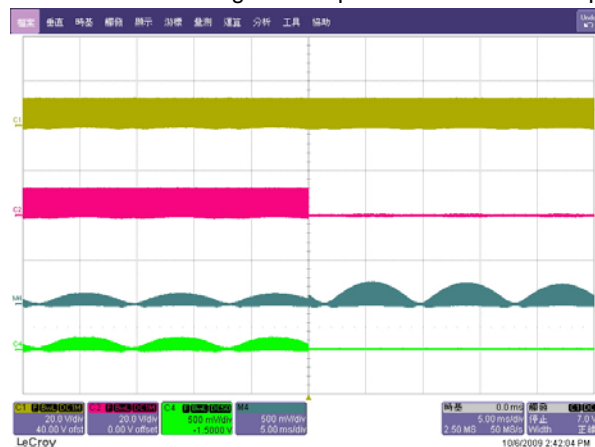
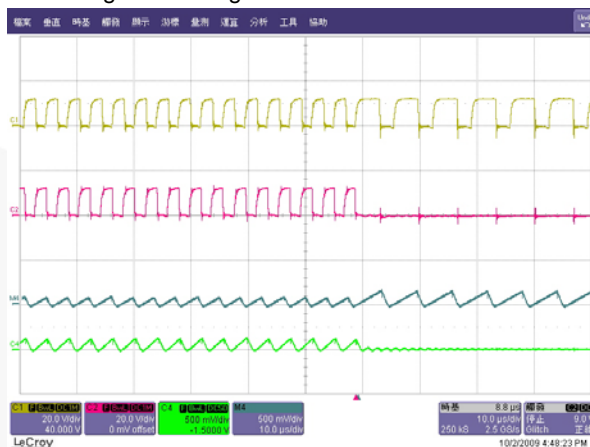

Figure 21. Phase-Shedding
Figure 22. Zoom-In
9. Figure 21 and Figure 22 show the phase-shedding waveforms. The duty cycle of the channel 1 gate drive signal is doubled when the other channel gate drive signal is disabled to minimize the line current glitch.